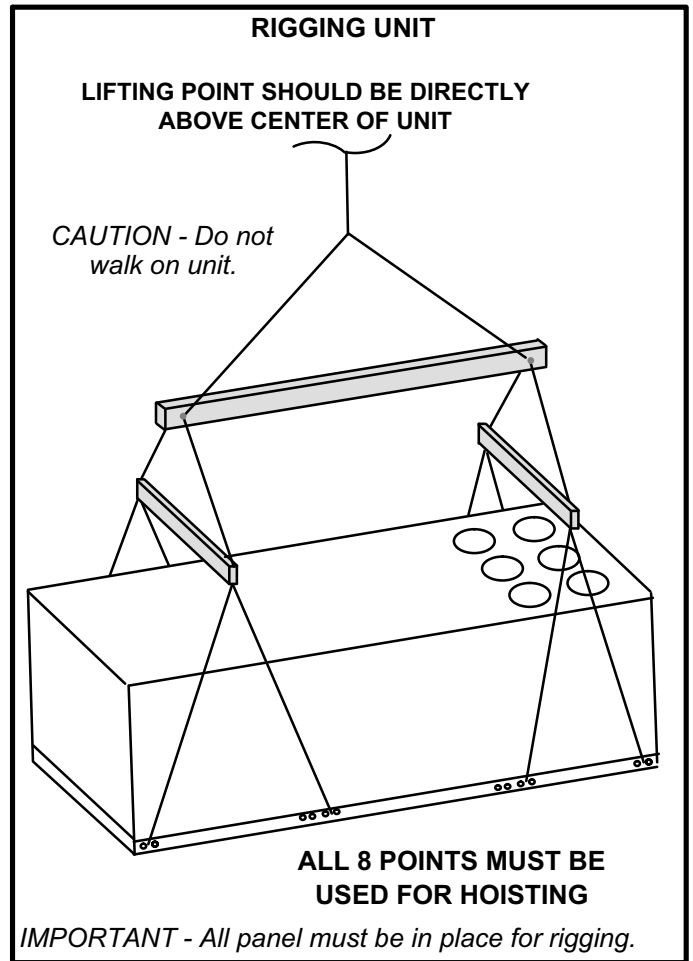

FIGURE 3
- 1- Connect rigging to the unit base rail using holes in each corner and unit sides. **ALL 8 POINTS MUST BE USED FOR HOISTING.** See figure 3.